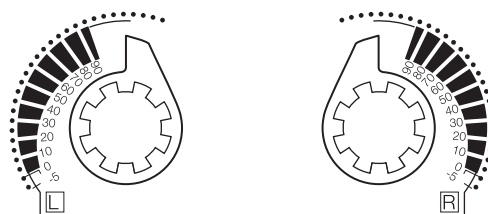

Figure-9 Installing the Position Indicator..
2. Place the position indicator onto the actuator spline in the approximate position shown in Figure-9. Fasten it with the retaining clip.